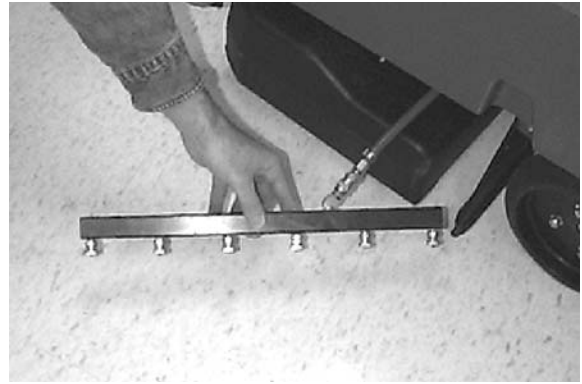

FIG. 21
- Lower brush/pick-up head and remove detachable spray bar from brush base. Do not disconnect bar from quick coupler. Raise brush after removing spray bar (Figure 21).